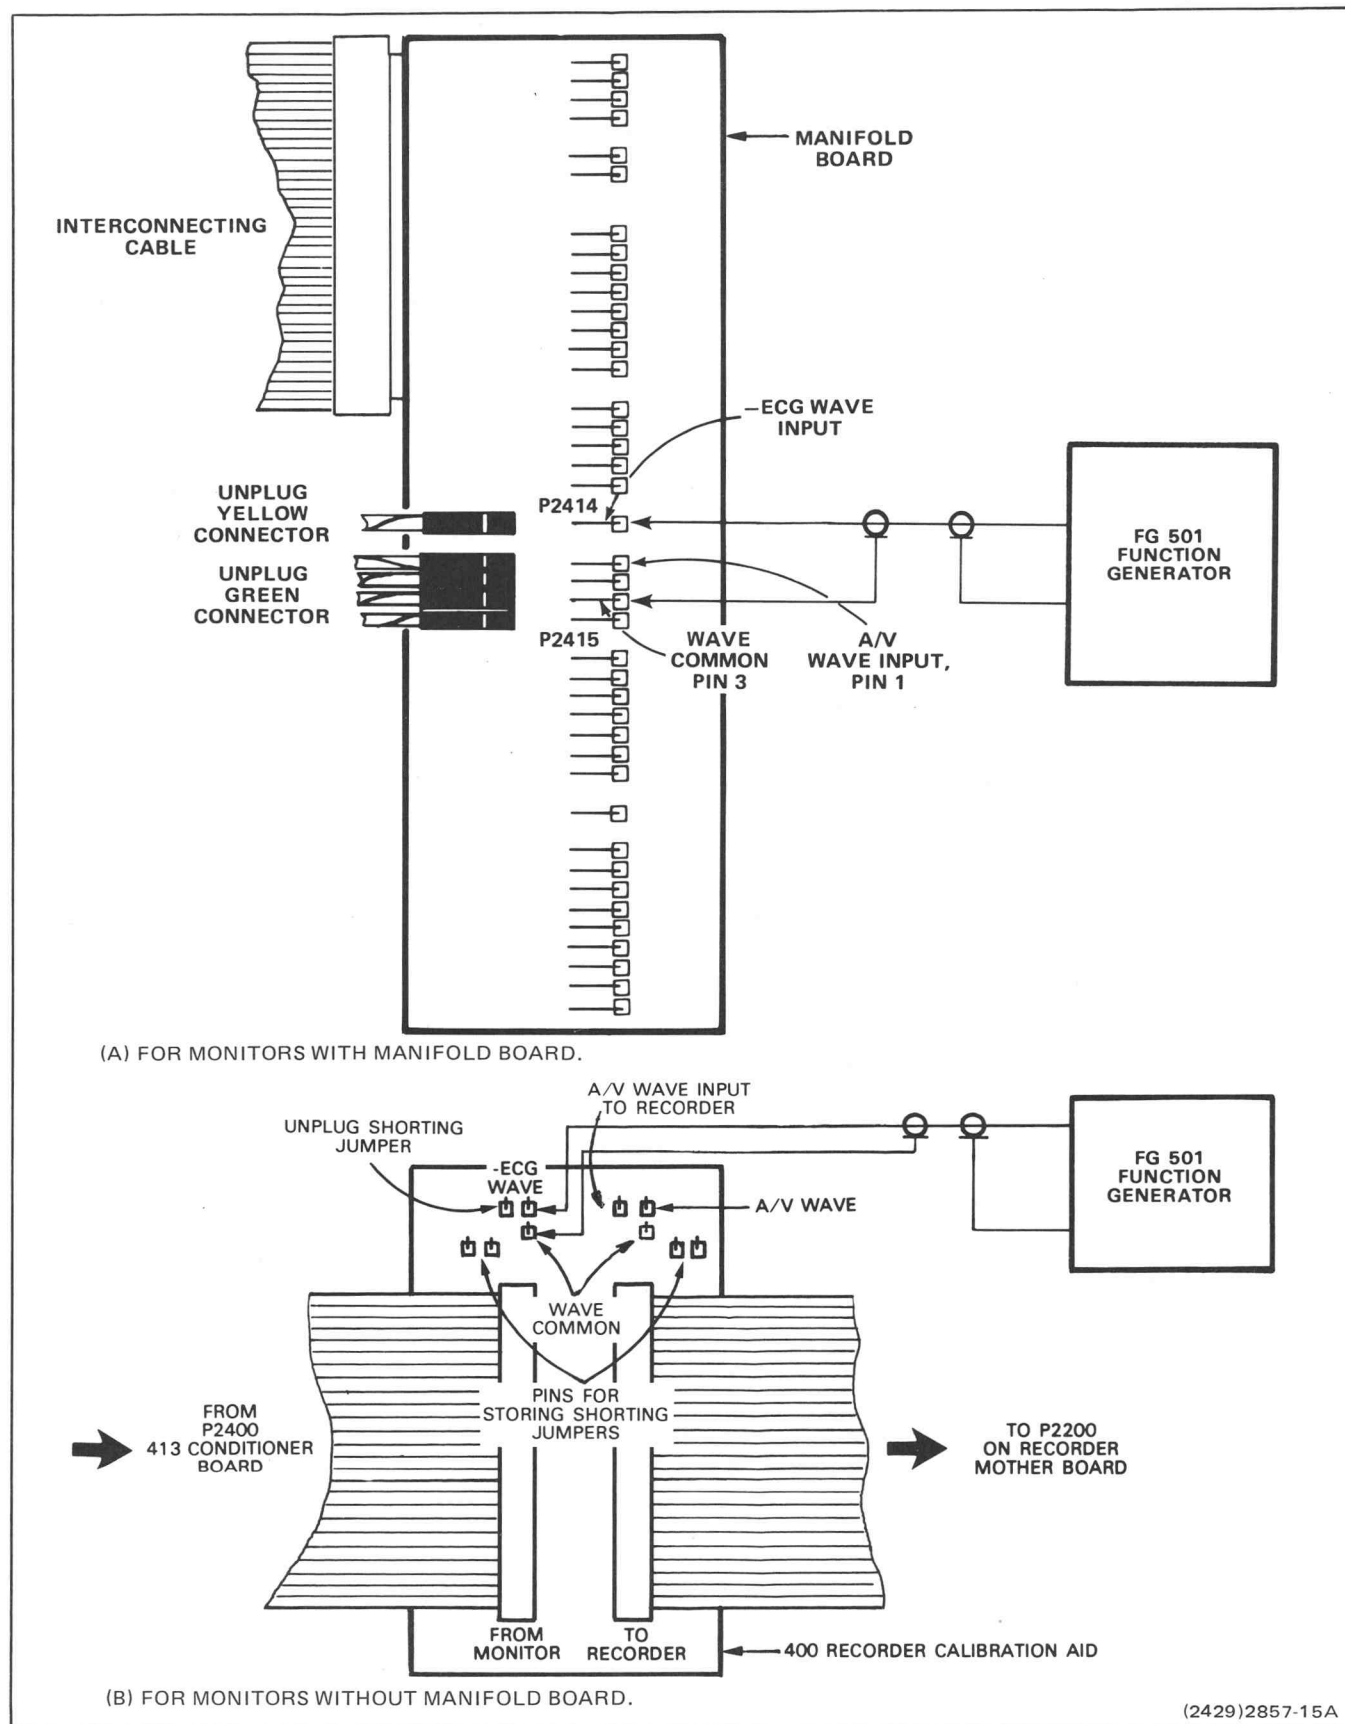

Figure 7-1. Connecting square wave to -ECG wave input.
- a. Apply a 3.0 volt peak-to-peak 1 Hz square-wave signal from the Function Generator as follows. See Figure 7-1 for locations of signal inputs.
(1) 414 Monitor:
b. Short together A/V Wave (P2415-1) to Wave Common (P2415-3) on Manifold board or on Calibration Aid. (See Fig. 7-1.)